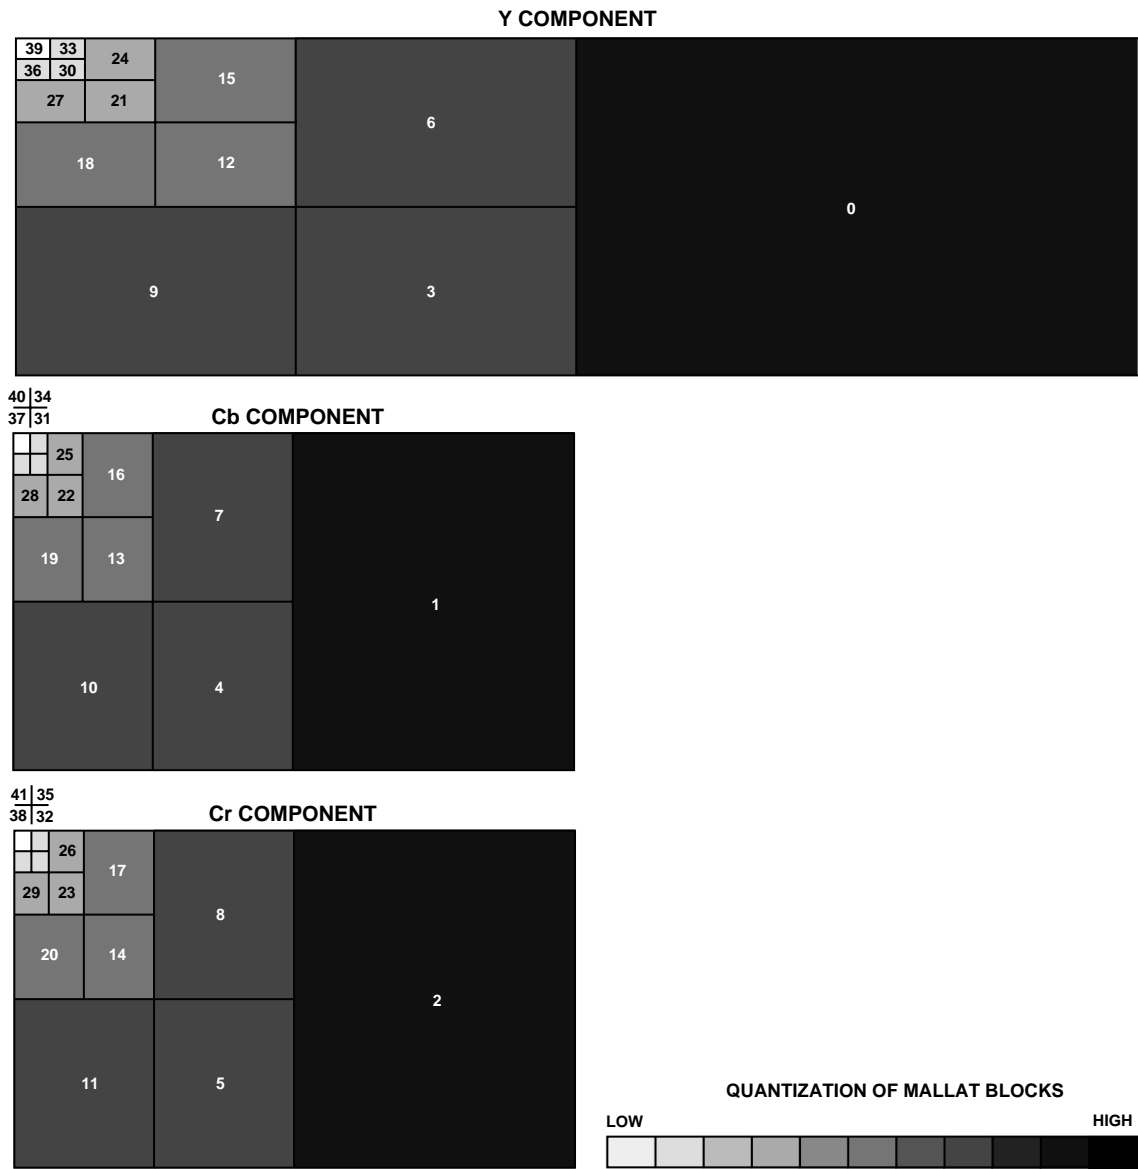

Figure 10. Typical Quantization of Mallat Data Blocks (Graphed)
Figure 10 shows how a typical quantization pattern applies over Mallat block data. The high frequency blocks receive much larger quantization (appear darker) than the low frequency blocks (appear lighter). Looking at this figure, one sees some key point concerning quantization: (1) quantization relates directly to frequency in Mallat block data and (2) levels of quantization range widely from high to low frequency block. (Note that the fill is based on a log formula.) The relation between actual ADV611/ADV612 bin width factors and the Mallat block fill pattern in Figure 10 appears in Table III.